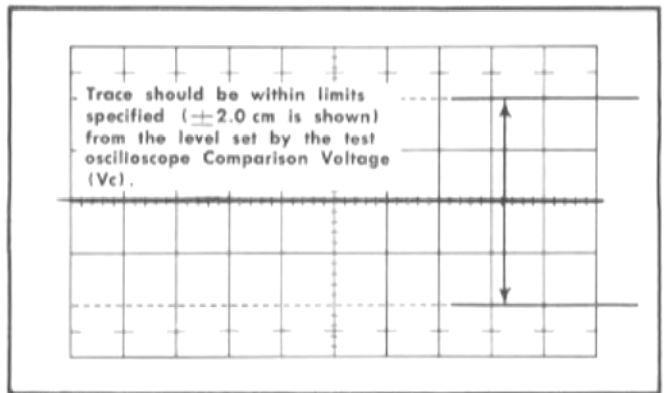

Fig. 6-5. Typical test oscilloscope display when checking Power-Supply voltages.
- f. Check—Test oscilloscope trace within ± 2.0 cm of the center horizontal graticule line (see Fig. 6-5).